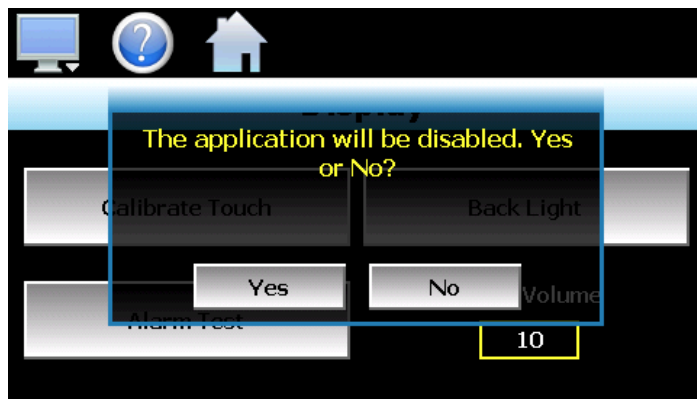

Fig. 112: Display Application Yes/No
4. Press YES to continue (Fig. 112).